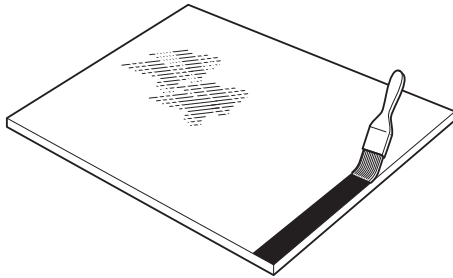

Fig 13.
- b If the glass does not have a black ceramic ink band, paint a band on the glass using 'Black Primer 206J'. The band should be approximately 25mm (1in) wide, and the edge should be a neat straight line, see Fig 13. (↗ B-35).